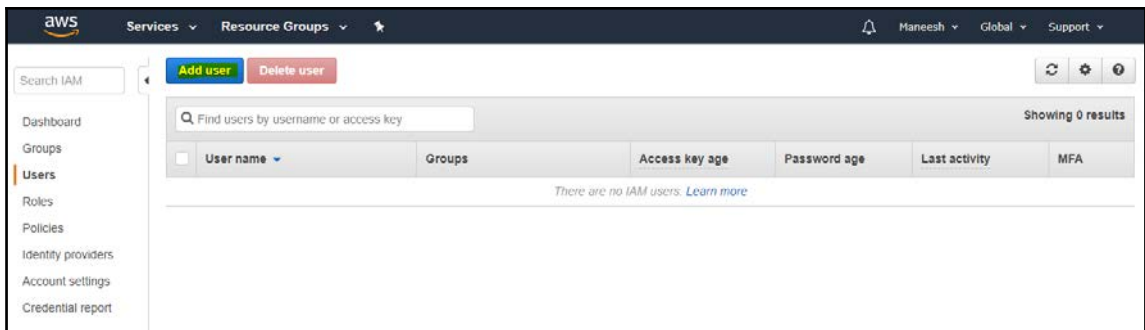

Figure 7.11
3. In the next tab, click on **Add users** as shown in *Figure 7.11*: